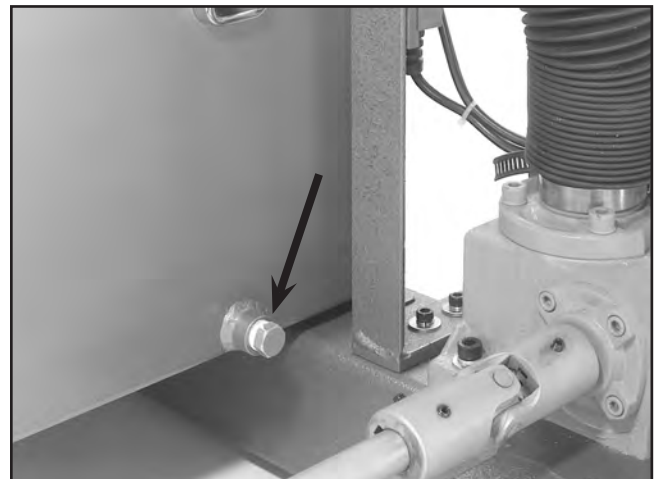

Figure 32. Drain plug for hydraulic tank.
2. Place your drain pan under the drain plug (**Figure 32**) and remove the drain plug.